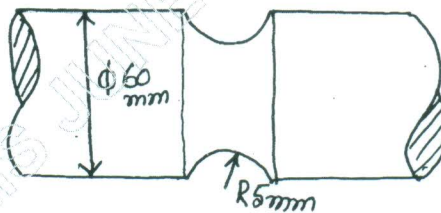

Fig.Q2(b)
b. Determine the maximum stress induced in the semi circular grooved shaft in Fig.Q2(b) if it is subjected to :